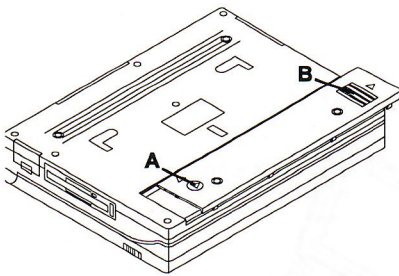

Figure 1-4
2. Remove the sliding battery cover by pressing at points A and B. Refer to Figure 1-4.